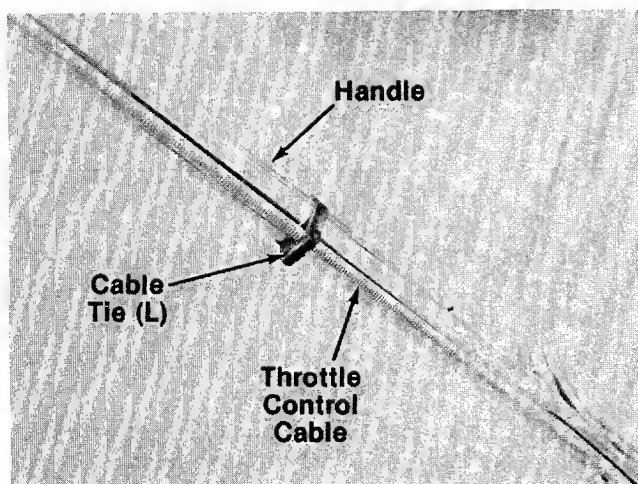

FIGURE 5.
- ← 6. Secure throttle control cable to upper and lower handles with cable ties (L) provided. See figure 5.